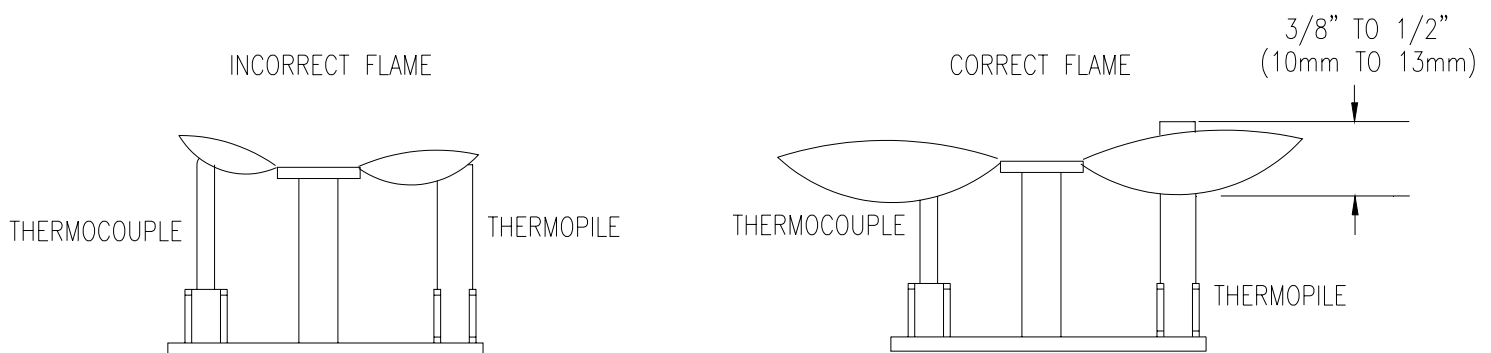

Figure 3.12 Pilot Flame
For proper operation, the pilot and main burner flames must be steady and not lifting off or floating. The pilot flame should engulf the top $3/8"$ - $1/2"$ (10-13mm) of the thermopile. The pilot flame adjustment should be performed by a qualified service person only. To adjust the pilot flame, turn the pilot adjustment screw counter-clockwise to increase, and clockwise to decrease the flame. Ensure that the pilot flame completely engulfs the thermopile (See Figure 3.12).
2. Visually check the burner and pilot flame periodically (See Section 3.10.2 and Figure 3.12).